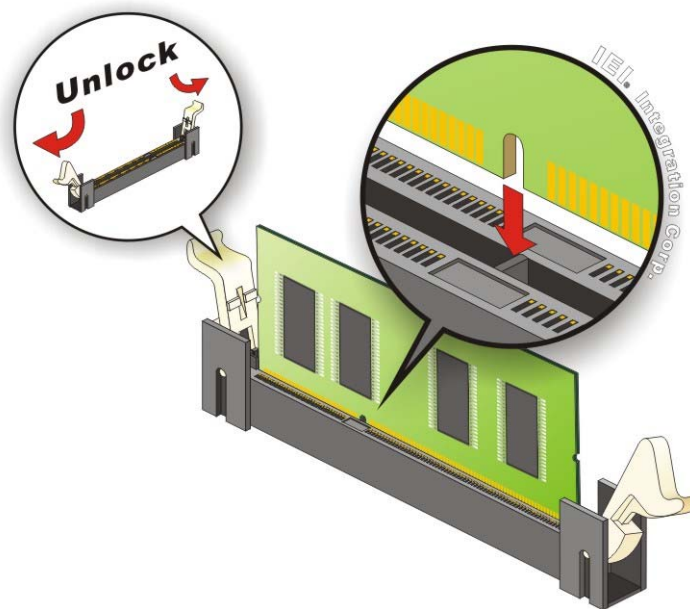

Figure 4-1: SO-DIMM Installation
To install a SO-DIMM, please follow the steps below and refer to **Figure 4-1**.
- Step 1:** **Open the SO-DIMM socket handles.** Open the two handles outwards as far as they can. See **Figure 4-1**.
- Step 2:** **Align the SO-DIMM with the socket.** Align the SO-DIMM so the notch on the memory lines up with the notch on the memory socket. See **Figure 4-1**.
- Step 3:** **Insert the SO-DIMM.** Once aligned, press down until the SO-DIMM is properly seated. Clip the two handles into place. See **Figure 4-1**.